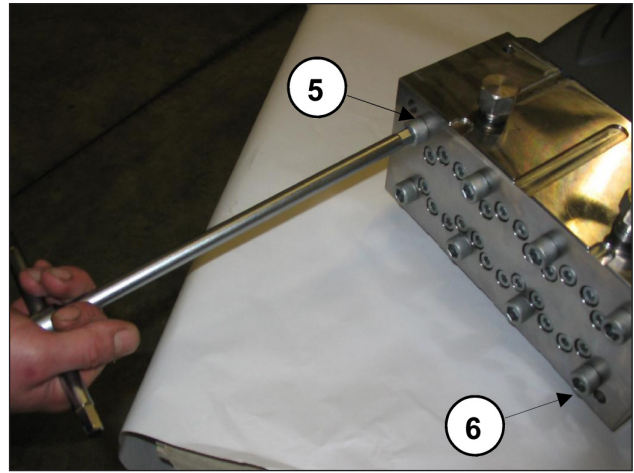
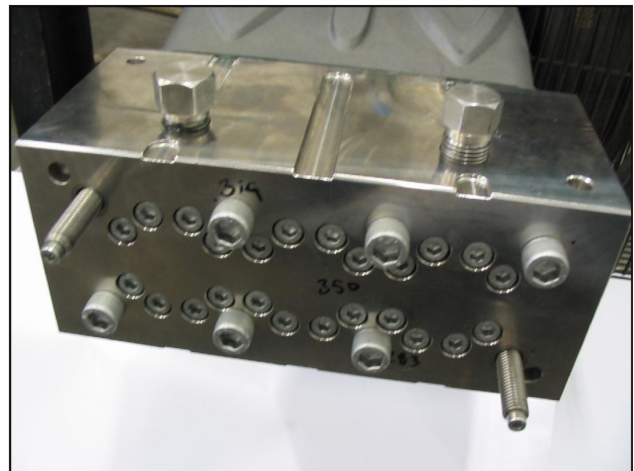

Fig. 17
Fig. 18
- Unscrew the M12x260 head fixing screws No. 5 and No. 6 as shown in Fig. 17 replacing them with two service pin-screws (code 27508200) as shown in Fig. 18. Then take out the remaining screws.